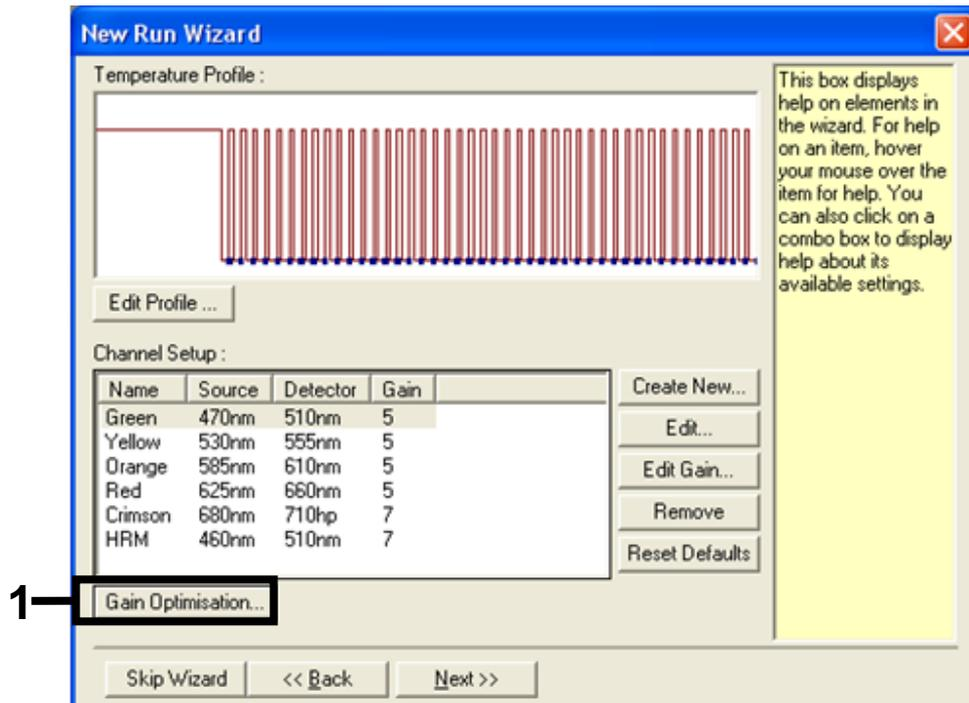

Figure 29. Gain optimization (1).
12. In the next dialog box, click “Gain Optimisation” (Figure 29).